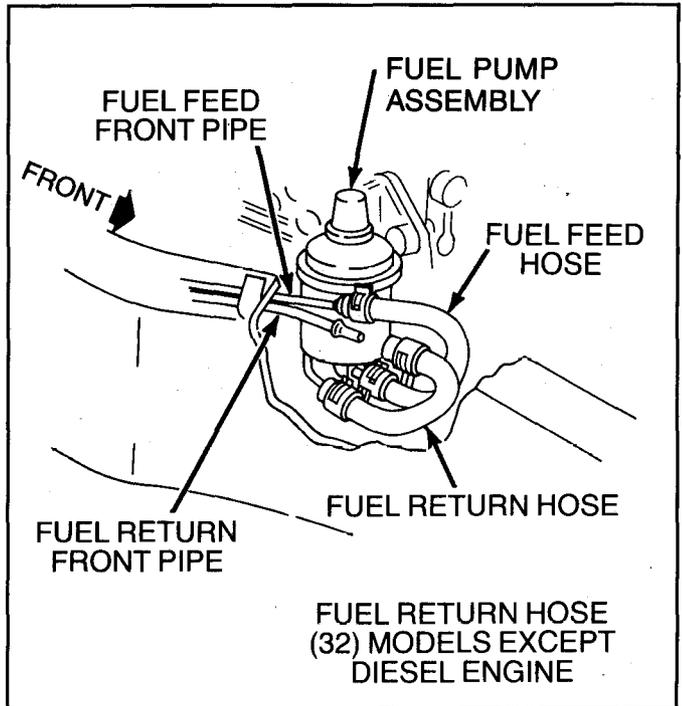

Figure A7-6-1 — Fuel Return Line Connections
In the event of a lack of power or rough engine complaint on the subject vehicles, check for the proper connection of the fuel return line. (See Figure A7-6-1.)
**NOTE:** Some 1978 and 1979 "G" Vans with V-8 engines, when operated in high ambient temperatures and under high engine fuel demands, have experienced the deformation of the flexible hose which connects the fuel feed line to the fuel pump. (See Figure A7-6-1.)